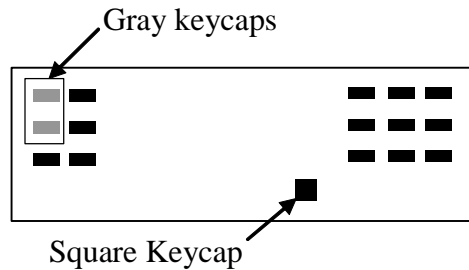

Figure 5-8
- Install rectangular gray key caps on S1 and S3 so the key caps are parallel to the long axis of the PC board (Figure 5-8). The caps are installed simply by pressing them onto the switch plungers.